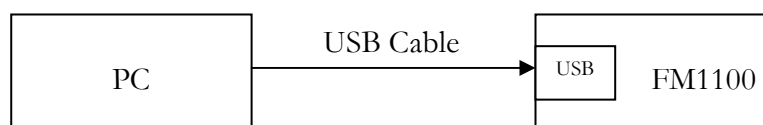

Figure 7 Connect FM1100 to PC and configure
2. Disconnect LV-CAN100 from FM1100, and connect PC USB cable to FM1100 Device (Figure 7). It is very important not to disconnect FM1100 from power source, because then all CAN data will be lost.